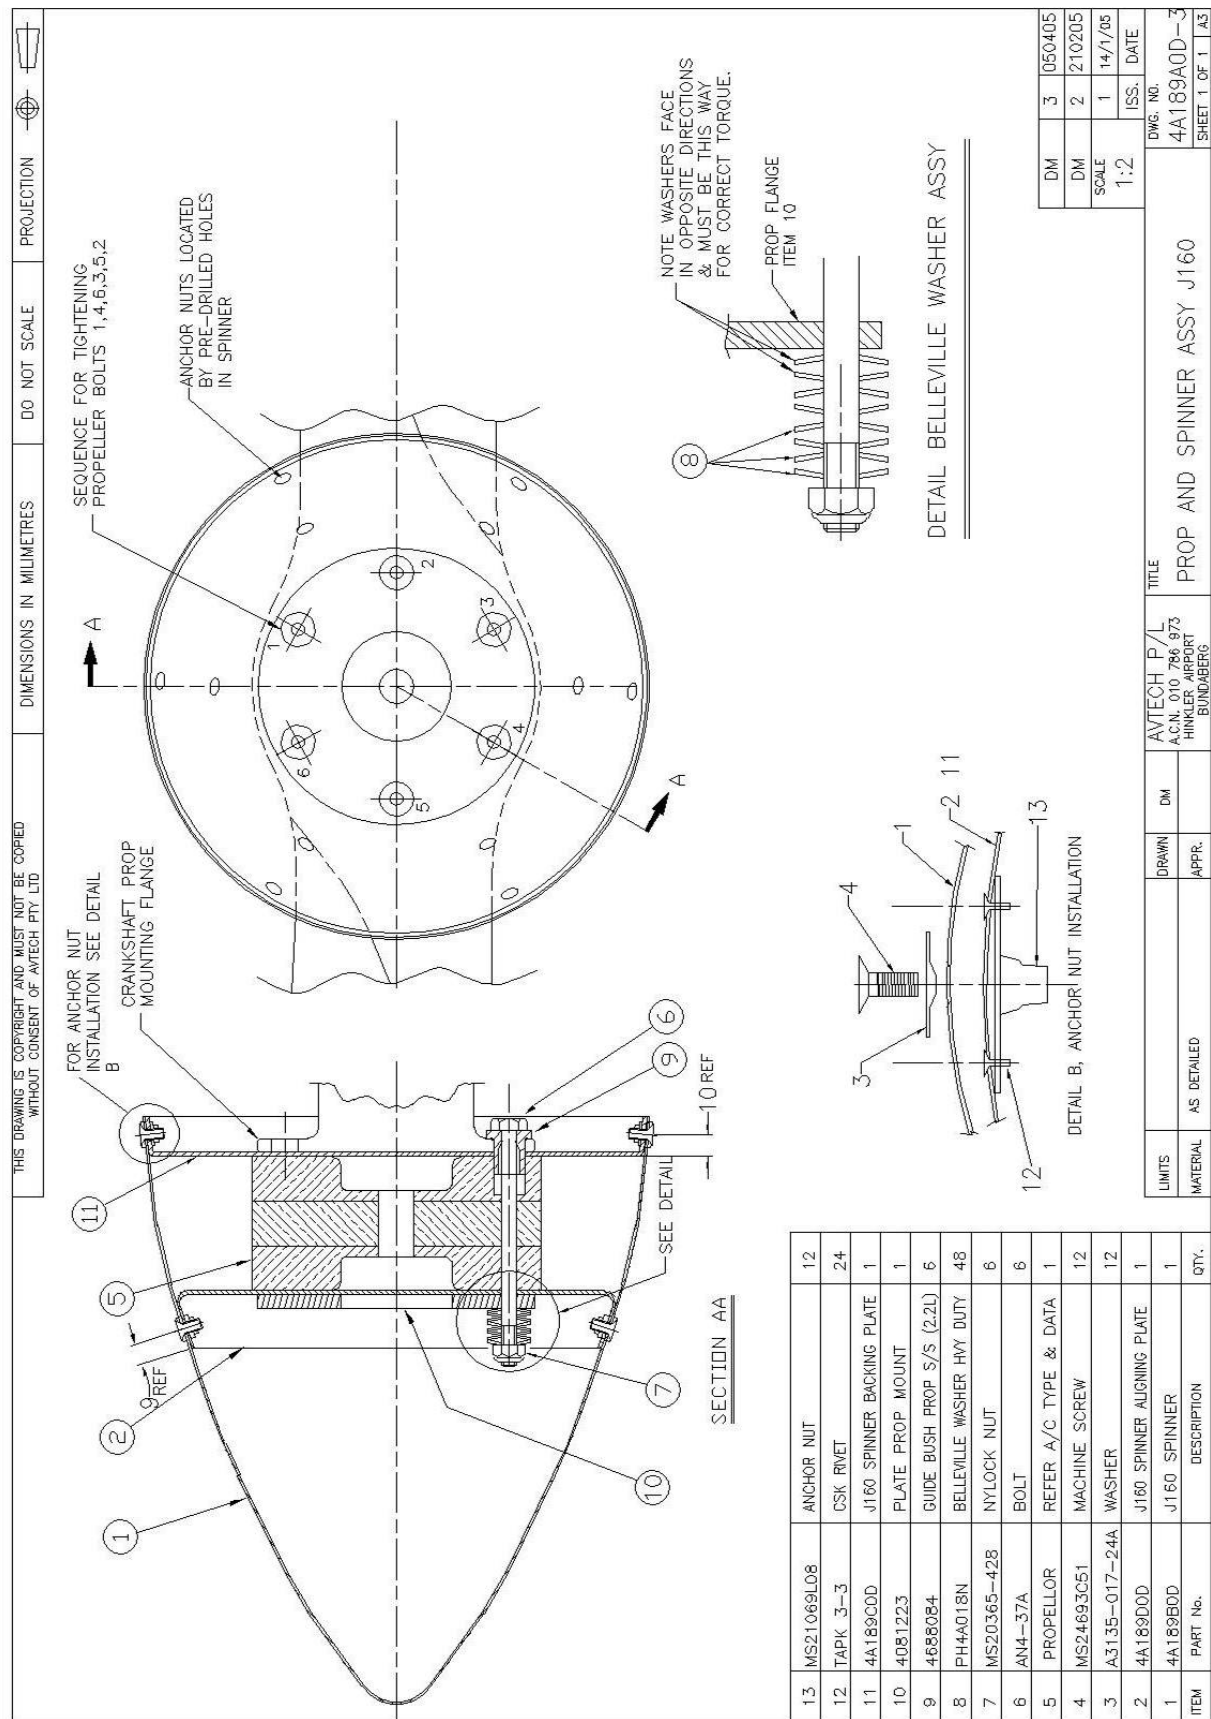

Figure 36. Schematic Propeller & Spinner Installation
- Belleville washers may be used as shown in Figure 36. to allow for expansion and contraction of Jabiru wooden propellers.